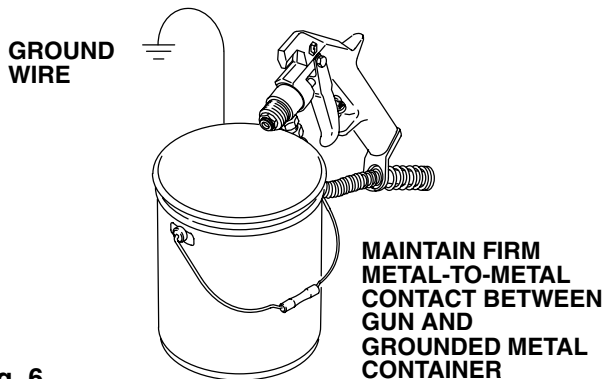

Fig. 6
6. Hold a metal part of the gun firmly against and aimed into a grounded metal pail. See Fig. 6. Squeeze the gun trigger and hold it open.